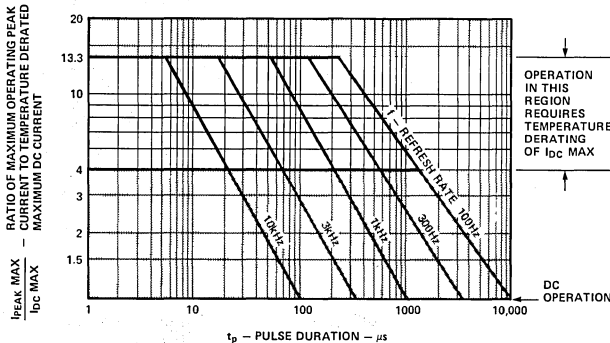
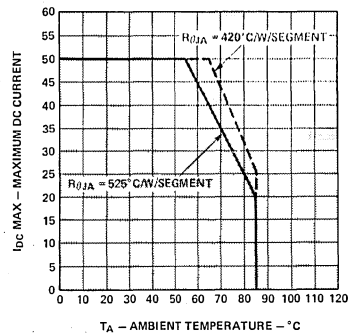

Figure 1. Maximum Allowable Peak Current vs. Pulse Duration
Figure 2. Maximum Allowable DC Current per Segment vs. Ambient Temperature
- See appropriate curves to establish pulsed operating conditions (see Figure 1 for -3400 Series, Figure 6 for -3900/-4200 Series, Figure 11 for -8600 Series).
Temperature derated strobed operating conditions are obtained from Figures 1, 6, or 11 and 2, 7, or 12. Figures 1, 6, and 11 relate pulse duration (t_p), refresh rate (f), and the ratio of maximum peak current to maximum dc current ($I_{PEAK} \text{ MAX}/I_{DC} \text{ MAX}$). Figures 2, 7, and 12 present the maximum allowed dc current vs. ambient temperature. Figures 1, 6, and 11 are based on the principle that the peak junction temperature for pulsed operation at a specified peak current, pulse duration and refresh rate should be the same as the junction temperature at maximum DC operation. Refresh rates of 1 kHz or faster minimize the pulsed junction heating effect of the device resulting in the maximum possible time average luminous intensity.
Worst case thermal resistance pin-to-ambient is 400°C/W/Seg when these devices are soldered into minimum trace width PC boards. When installed in a PC board that provides $R\theta_{PIN-A}$ less than 400°C/W/Seg these displays may be operated at higher average currents as shown in Figure 2.